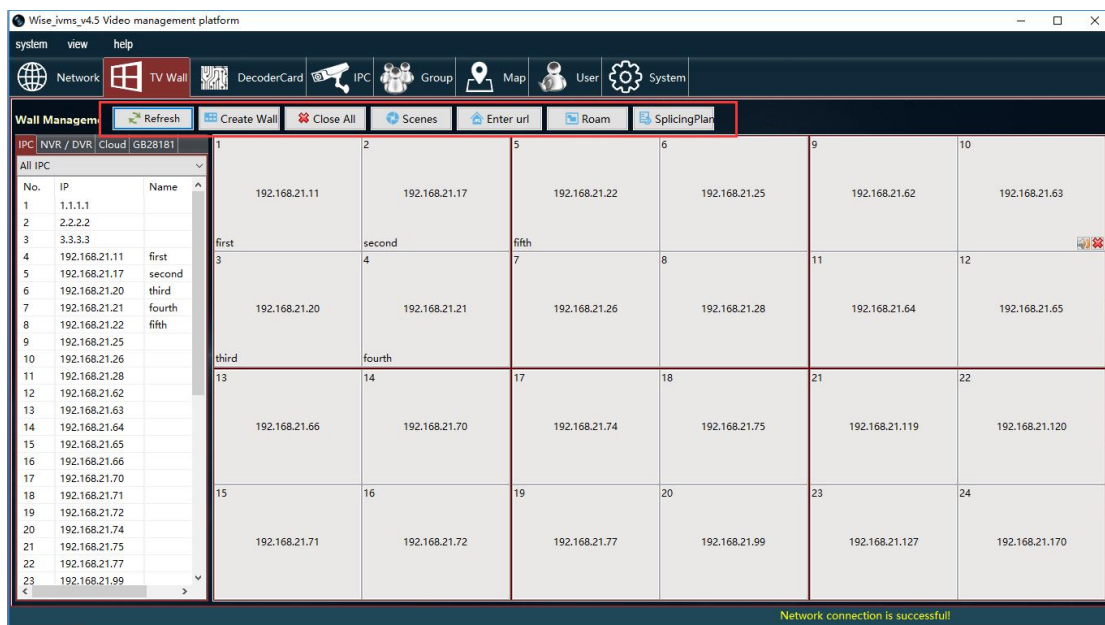
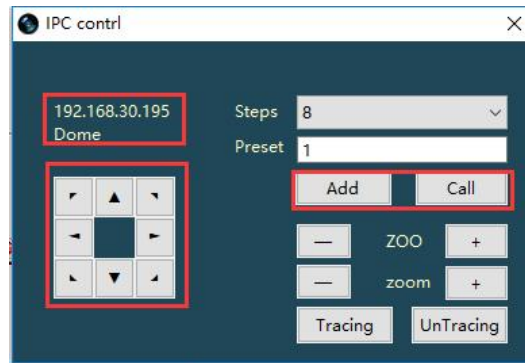

Figure 3.12
Figure 3.27
- Import: after searching and determining the account, add the IPC to the left via the import button. The imported IPC will also be updated to the list of monitor points to the left of figure 3.12.
- Create wall: enter the interface as shown in figure 3.12. If no curtain wall is created, click "create wall" button first, as shown in figure 3.13. Create appropriate curtain walls based on the number of decoder cards .As shown in figure 3.12 above, the 2x3 curtain wall is created.
- Call in the video: in the list of monitoring points on the left of figure 3.12, drag an IPC directly to the channel on the right with the left mouse button. As shown in figure 3.14, the IPC with IP 192.168.21.11 is transferred to channel 1, and the IPC with IP 192.168.21.17 is transferred to channel 2. The upper left corner of each channel is the channel number, the middle is the IP of IPC, and the lower left corner is the IPC name.
- Turn off all IPC: in figure 3.12, there is a button "Close all", which can turn off all IPC in the current incoming channel.
This feature can save different scenes and play them in a loop. Click the "Scenes" button in FIG. 3.12 to enter the interface in FIG. 3.19.
Click the "Roam" button in FIG. 3.12 to enter the window roaming management interface in FIG. 3.20. To the left is the list of IPC, click an IPC (IPC turns blue to selected), and drag an area in a screen on the right to realize the window opening of IPC in the specified area on the specified device (the white area in the picture below is the window opening of IPC with IP 192.168.21.12 on screens). Click "close Roam" button to close the current open window.
- Add external source: select the device in the drop-down box of "DevID" (each card represents one device), fill in the device name, and click the add button. Add the external source synchronously in the list of monitoring points in figure 3.12.
- Remove external source: select the device to be removed in the "DevID" drop-down box and click the delete button. The list of monitoring points in figure 3.12 will remove the external source at the same time.
In the list of IPC on the left of FIG. 3.12, double-click an IPC to enter the interface of "IPC control" in FIG. 3.27, or move the mouse over the channel to load the ball machine, and right click to open the interface of " IPC control" under the menu shown in FIG. 3.22.
Note: the type of IPC must be changed to "Dome " in the IPC interface before the ball machine control, and the ball machine can only be operated after it is saved successfully.(if the IPC opened is a gun or not modified to a ball machine, the IP and type are shown in red in figure 3.27.)
- Add equipment: in figure 3.12 "DVR/NVR" on the left of the interface the blanks click the right mouse button to open the following menu is shown in figure 3.28, "add device" button to enter "equipment" interface, figure 3.29 choose to add a device type, the equipment IP, port, user name, password, and channel number to fill in full, after determining the equipment will be added to the left side of the interface (device name can, also can is empty; The maximum number of channels is 128).